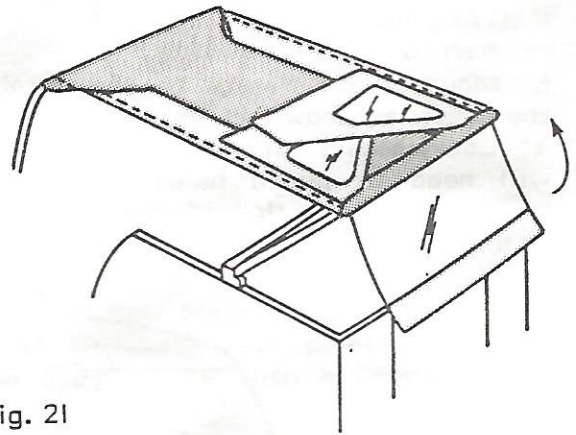

Fig. 21
3. Lay the folded side panel up over the top, folding along the heat-seal seam. This eliminates creases in the windows. Then fold the rear curtain up over the side panels. See Figure 21.